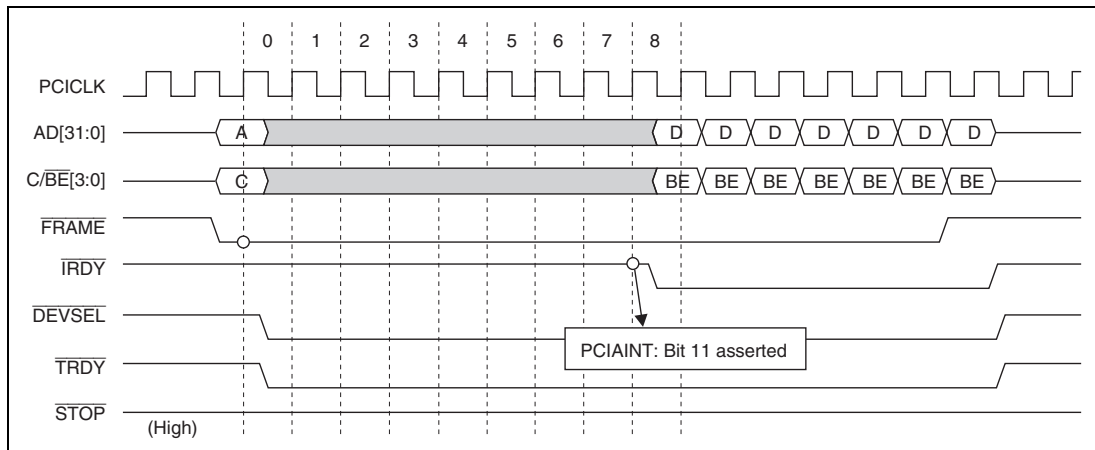

**Figure 22.26 Master Bus Timeout Interrupt Generation Example 1**
2. Master data latency: A master bus timeout interrupt occurs (see figures 22.26 and 22.27).